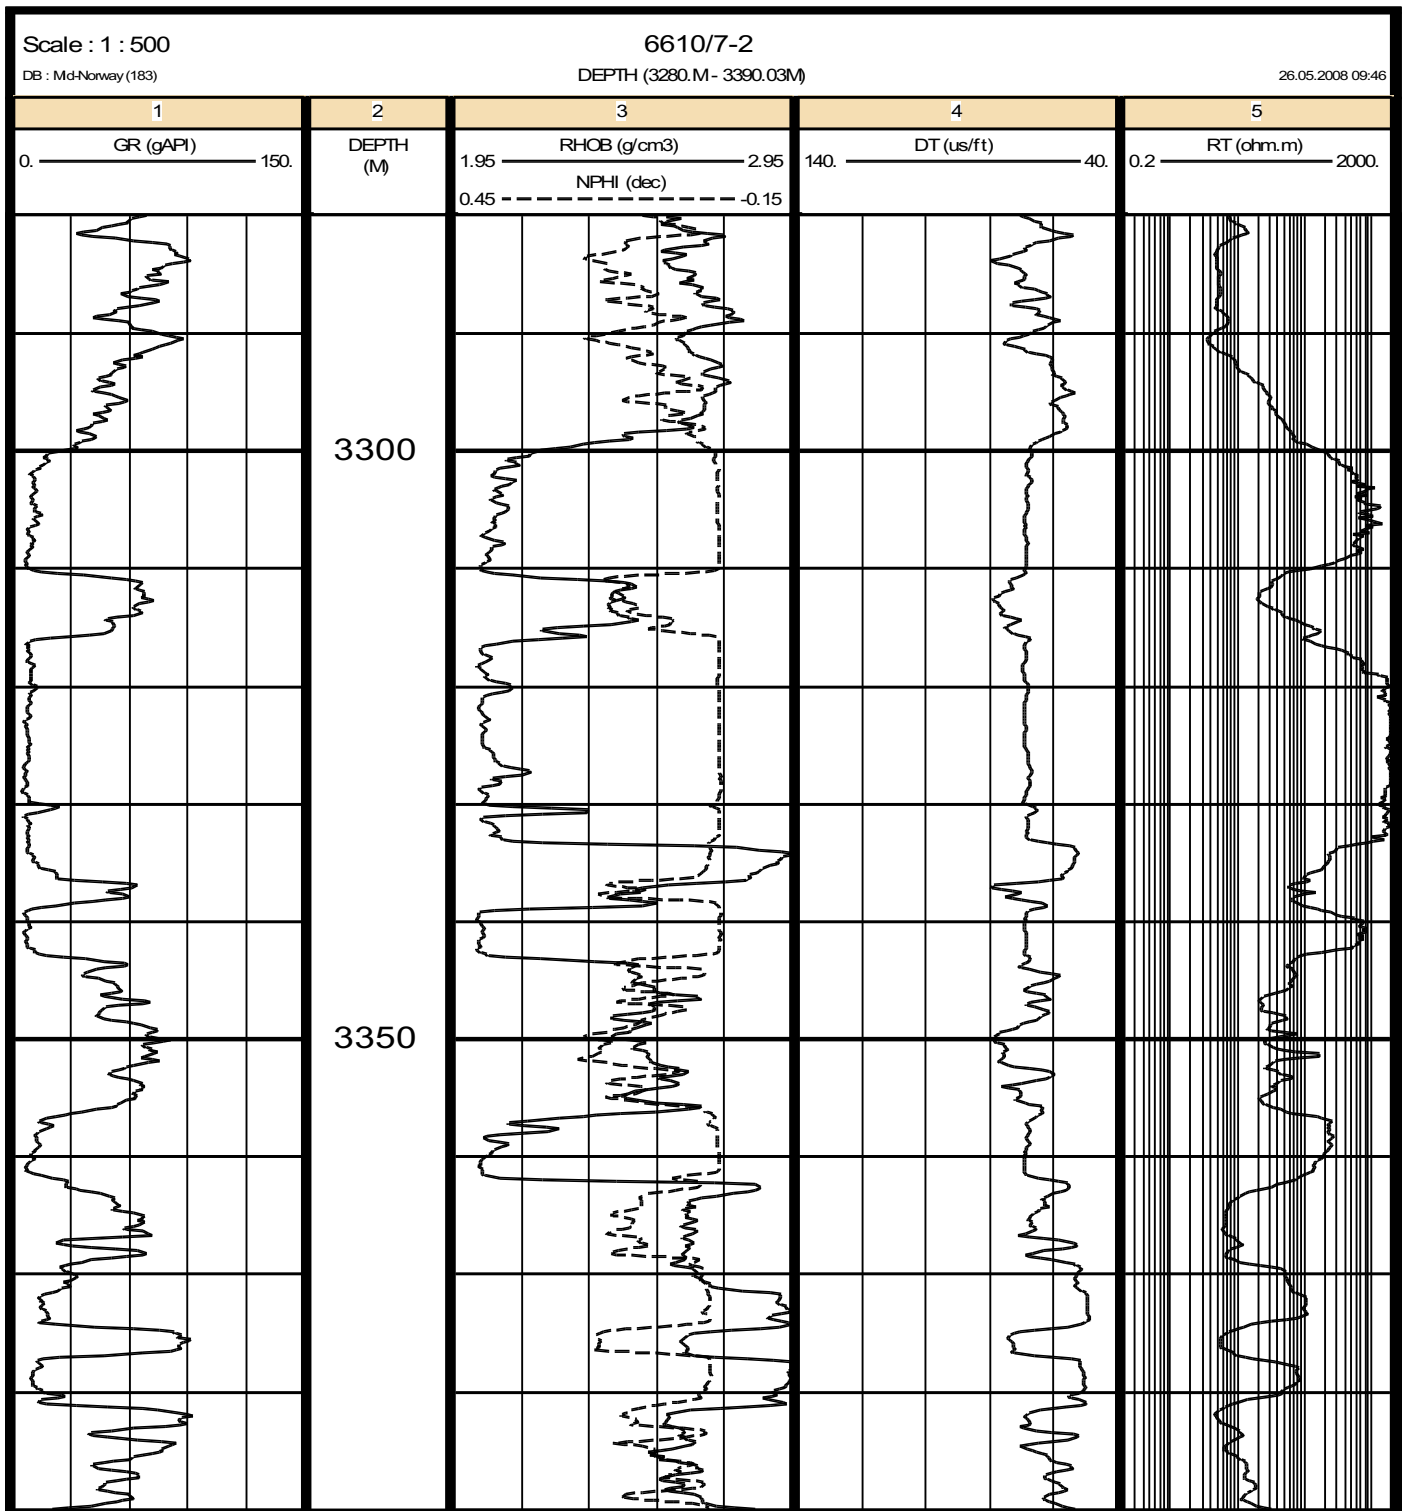

FIGURE 2.1
1. The following 5 logs are given from a well from the Haltenbanken area (Fig. 2.1):